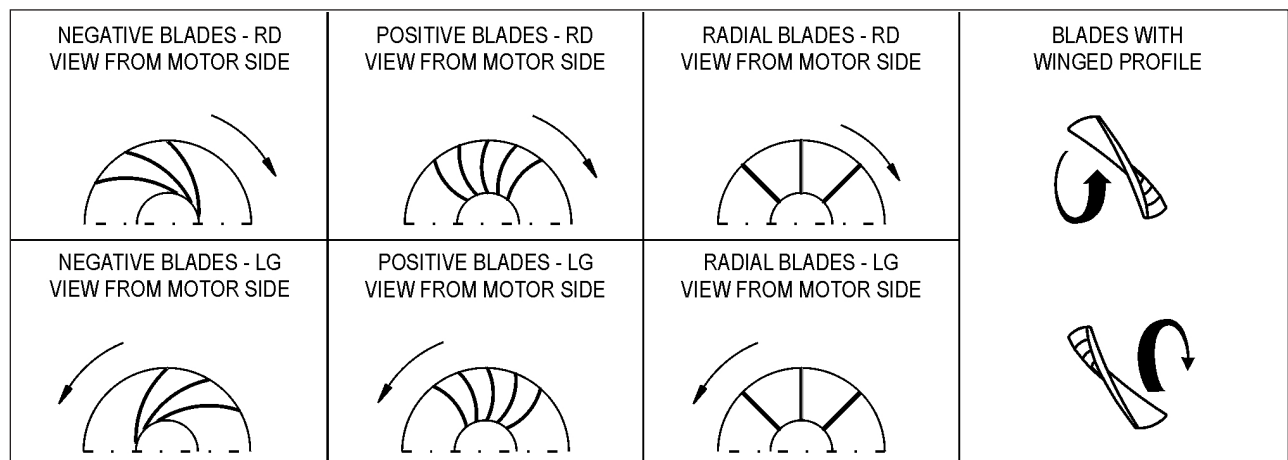

FIG. 3 (Description of the machine)
- **Radial fan (centrifugal):** fan where the fluid meets the impeller in the axial direction with it and the leaves it in a direction perpendicular to the axis. The blades: **negative** where the fluid is processed with the rear and convex part (EU-EUM-MPR-TR-BT-BPRD-APR.-APR.D); **positive** where the fluid is processed with the front and concave part (BP-TPA-TQ-TF-TG-AP.); **radial** or straight: where the fluid is processed indistinctly with the rear or front part, if there are no blade reinforcements on one or the other part (TTRC-TH) (s. FIG. 3).